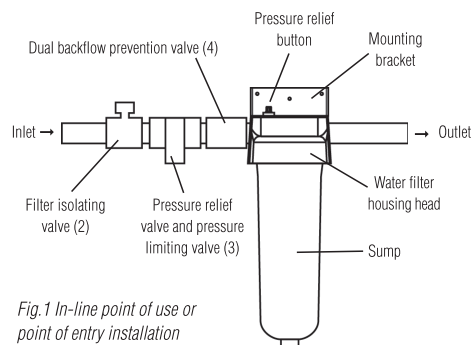
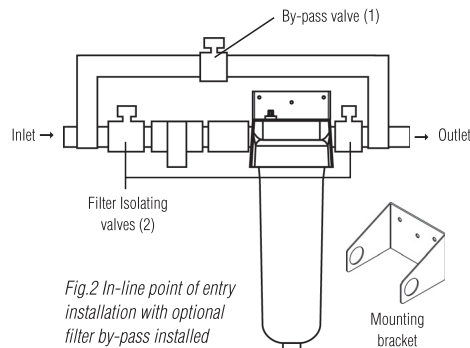

Fig.1 In-line point of use or point of entry installation
Fig.2 In-line point of entry installation with optional filter by-pass installed
1. Turn OFF water supply to water filter housing (refer to Fig.1 and Fig.2 on page 2), by turning OFF filter isolation valve(2). Depress (RED) pressure relief button on top of filter head to relieve pressure in filter housing and installation. In installations with by-pass, turn OFF filter isolating valves (2) and turn ON by-pass valve (1).